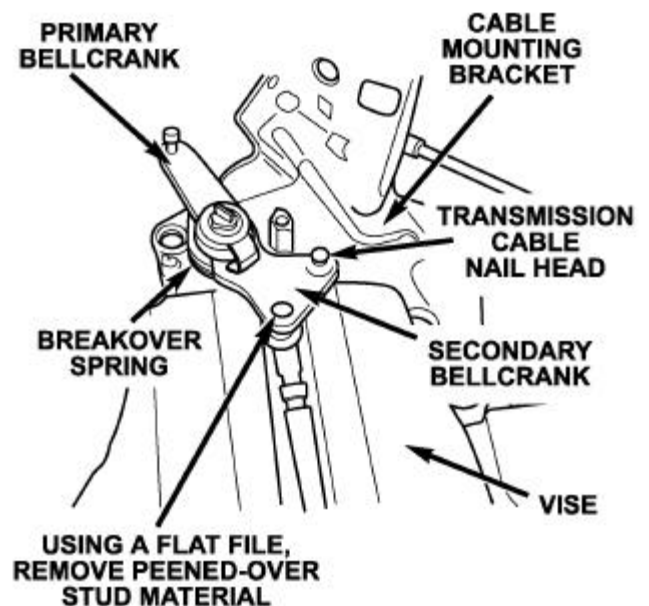

Figure 5
22. Support the secondary bellcrank by clamping the rod end in a vise (Figure 5).
23. Using a flat file, file the opposite side of the secondary bellcrank throttle rod ball stud (peened side) until it is flush with the bellcrank surface (Figure 5).